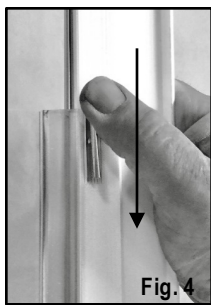

Fig. 4
5. Keep your thumb firmly on the back edge of the razor blade, slide the tool in a downward motion in the direction of the blade to make your cut. (Fig. 4)